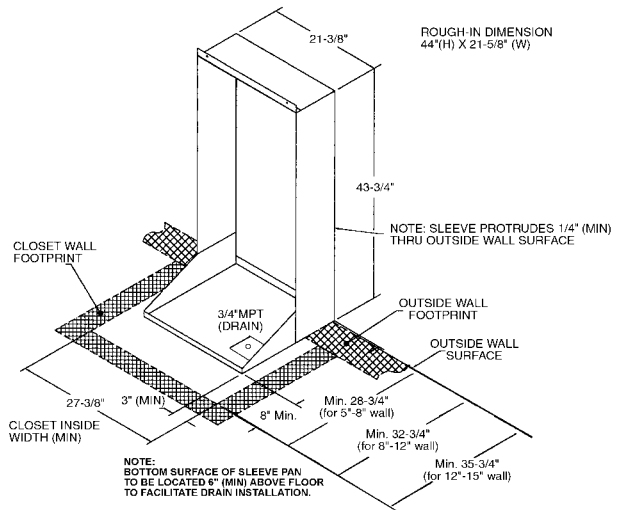

Figure 2
Provisions should be made to allow access to the indoor side of the unit for installation and inspection. The closet or access panel opening must be centered with the exterior wall opening and be at least 24" wide by 84" tall (Figure 2). Three (3) inches of unobstructed space is required on the left and right sides of the sleeve and 8-1/2 inches of space is required from the rear of the sleeve to provide sufficient air flow around the unit. At least 27- 3/8" inches of unobstructed space should be provided in front of the access door to permit removal of the unit should repair and inspection be required.